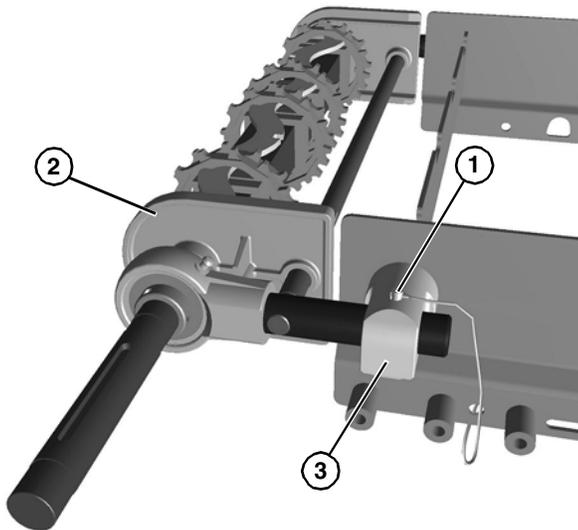

Figure 61
5. Remove the pull pin (**Figure 61, item 1**).
6. Slide the drive tail assembly (**Figure 61, item 2**) out of the take up blocks (**Figure 61, item 3**).